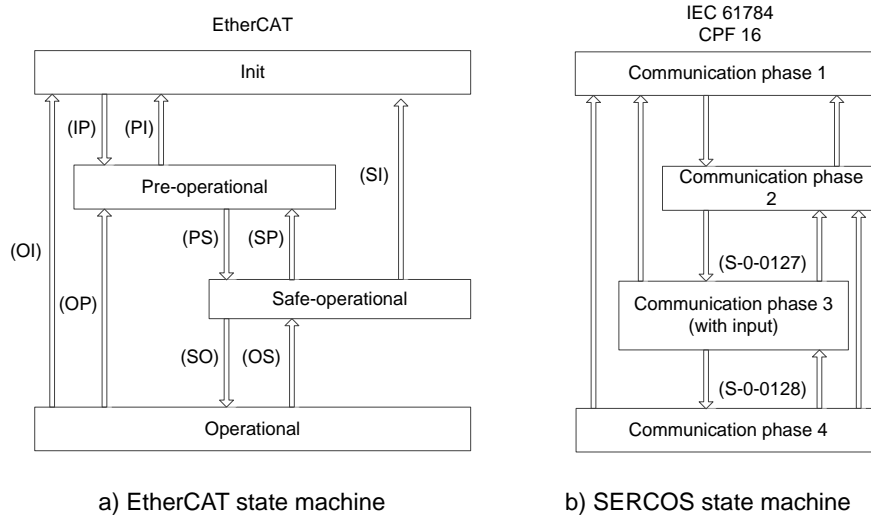

Figure 7-29 SoE state machine
A comparison between the communication phase of the SERCOS protocol and the EtherCAT state machine is shown in the Figure 7-29. The SoE state machine is featured as follows:
6. The SERCOS protocol only allows switching down from the advanced communication phase to communication phase 0, whereas EtherCAT allows any state switching down (as shown in a) in Figure 7-29. For example, switching from the operational state to the safe operational state or from the safe operational state to the pre-operational state. The SoE should also support this switchover as shown in b) in Figure 7-29. If the slave does not support this switchover, set the error bit in the EtherCAT AL state register.